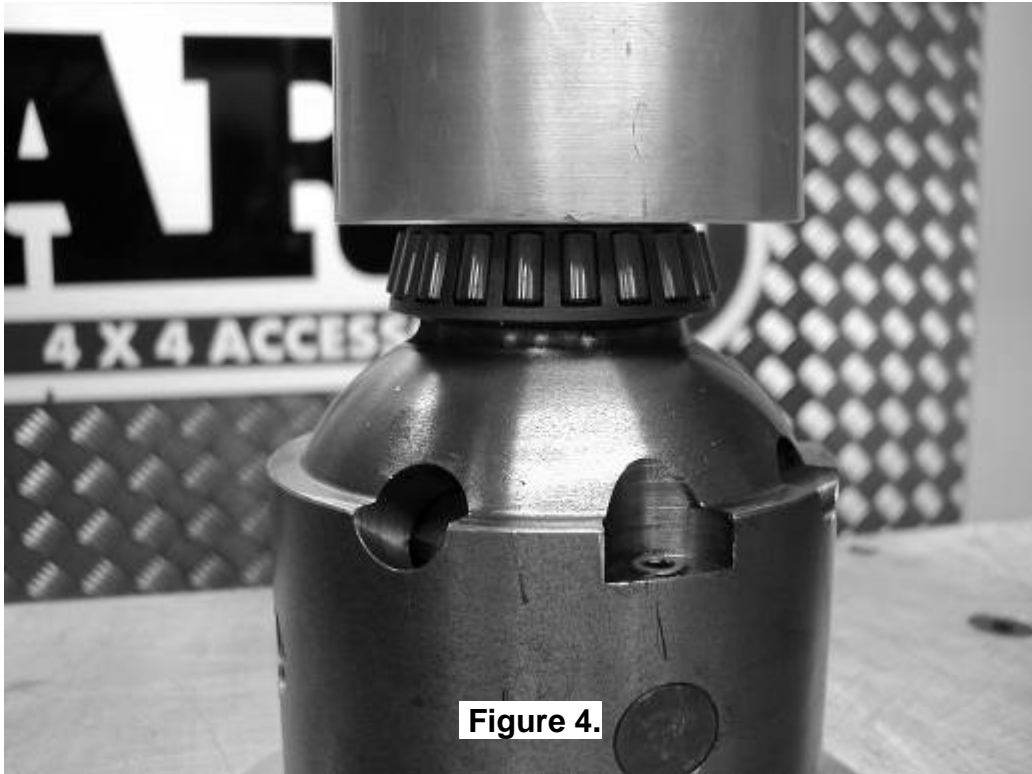

Figure 4.
- ☐ Using a bearing press or arbor press, press one of the bearing cones (supplied with the *Air Locker* kit) onto one bearing journal of the *Air Locker* (refer to Figure 4.) until the bearing seats firmly against the bearing journal shoulder.